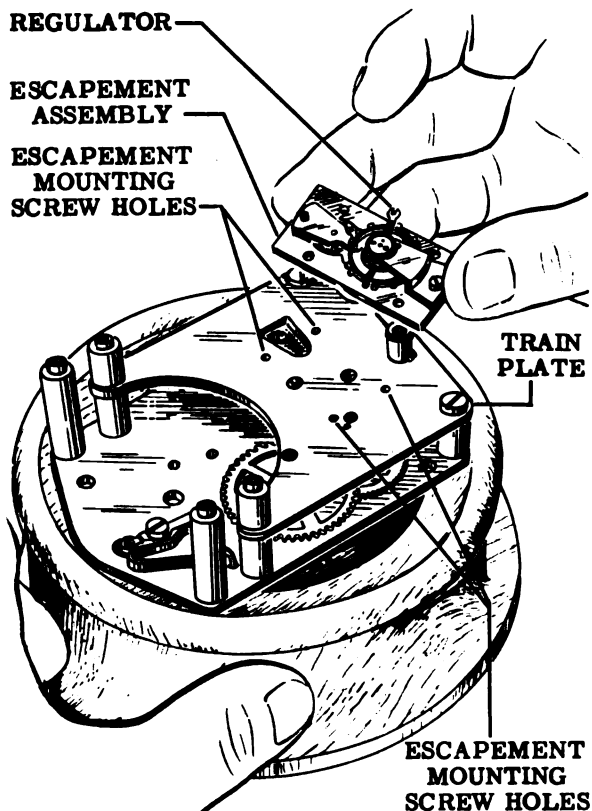

Figure 58
- Turn the movement so that it is train side up on the movement work block. Unscrew the four escapement mounting screws and lift off the escapement as a complete unit as shown in Fig. 58. Set the escapement aside for separate disassembly.